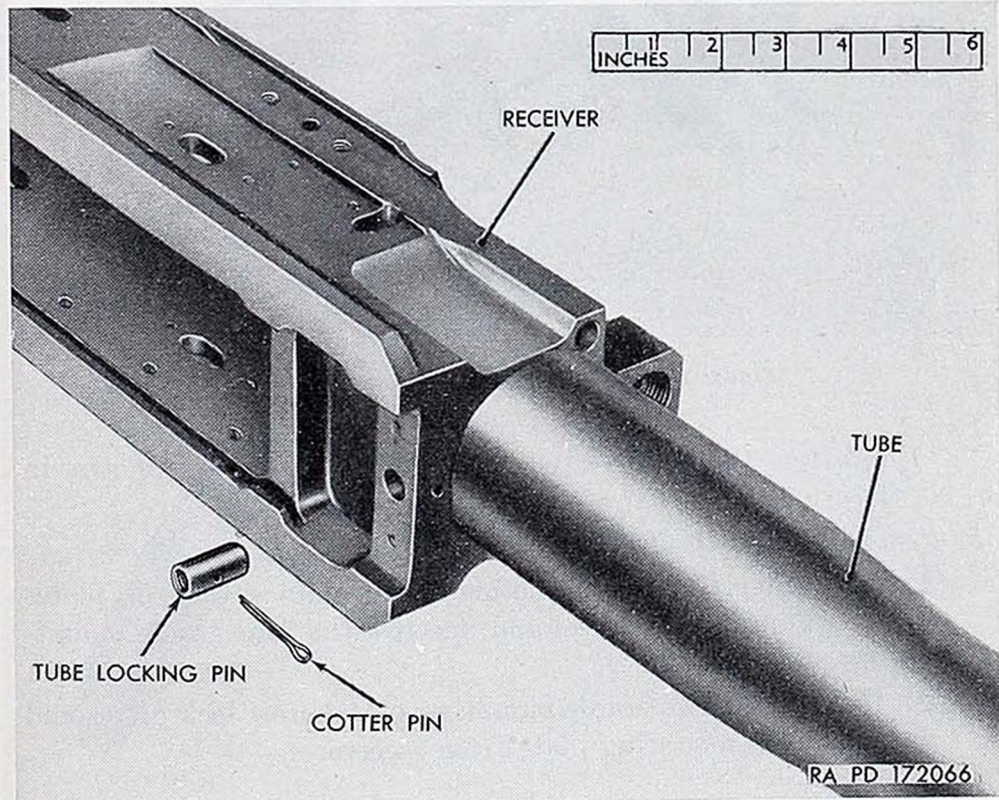

Figure 117. Tube locking pin removed.
- (1) Remove cradle from receiver (par. 99). Remove cotter pin from tube locking pin in receiver (fig. 117).
- (2) To remove tube locking pin, using tube locking pin removing tool 6163764 (41-T-3378-87) (figs. 106 and 116), screw threads on shaft of tool into tube locking pin as far as they will go, screw large nut on tool downward so that it is flush with the receiver and handtight, and continue to turn nut in same direction with a wrench, while holding the handle of the tool with the other hand. Remove tube locking pin (fig. 117).